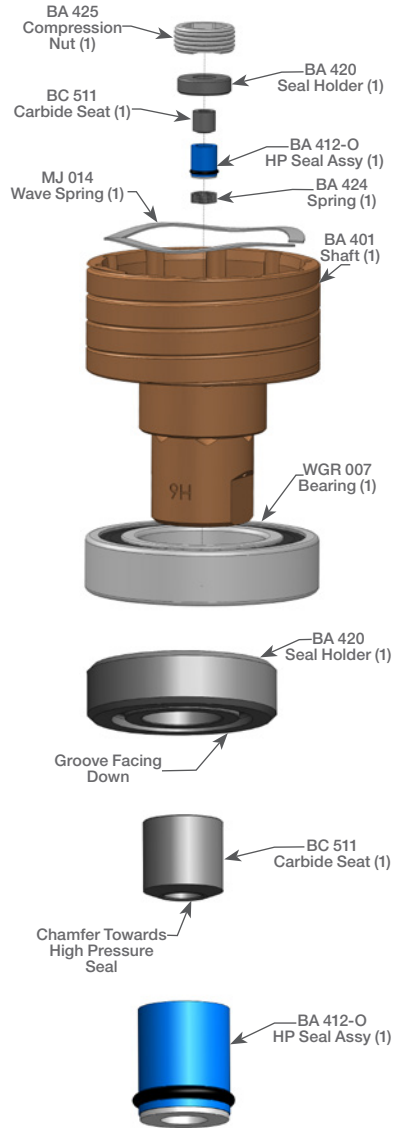

Figure 8: For Steps 8-9
9. Slide Wave Spring (MJ 014) in open end of Shaft down to inner shoulder (see Figure 8).